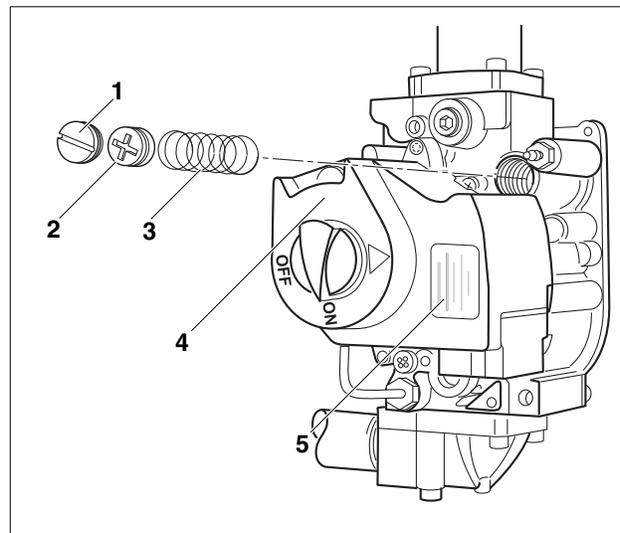

Fig. 4 Gas control valve
6. Remove the pressure regulator capscrew (Fig. 4, **Item. 1**) from the gas control valve (Fig. 4, **Item. 4**).
7. Remove the pressure regulator adjusting screw (Fig. 4, **Item. 2**).
8. Remove the stainless steel spring (Fig. 4, **Item. 3**).
9. Install the red spring contained in the Honeywell LP gas conversion kit into the gas control (Fig. 4, **Item. 4**).
10. Install the new pressure regulator adjusting screw until it is flush with top of regulator. Turn six (6) complete turns clockwise. This will supply a preliminary pressure of approximately 10.0 inches water column. The setting needs to be checked with a manometer after conversion of the manifold is completed.
11. Install new black protective screw (Fig. 4, **Item. 1**) from the LP conversion kit.
12. Clean the gas control body (Fig. 4, **Item. 4**) and apply the yellow label (Fig. 4, **Item. 5**) from the LP conversion kit to the gas control valve so that it is easily visible.